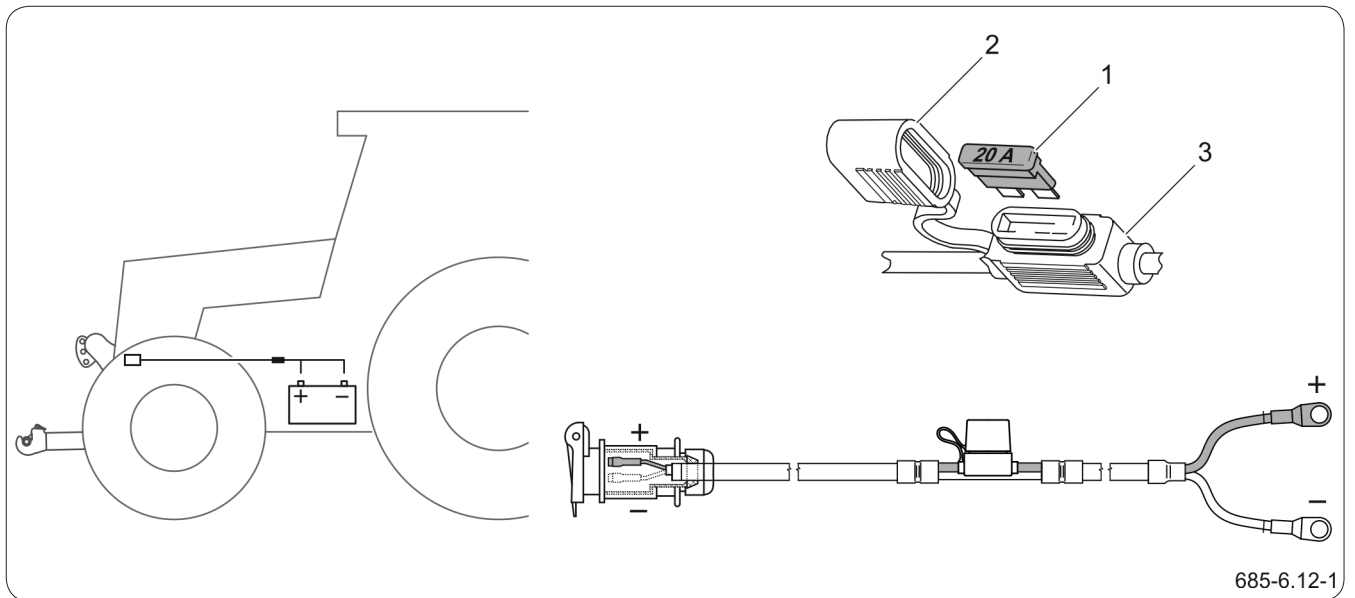

Figure 6.3 Replacement of electrical supply fuse
There is a 20A UNIVAL fuse (1) in the electrical supply harness (Figure 6.3). To replace the fuse, remove the cover (2) and then pull the fuse out of the housing (3) and replace with a new one.